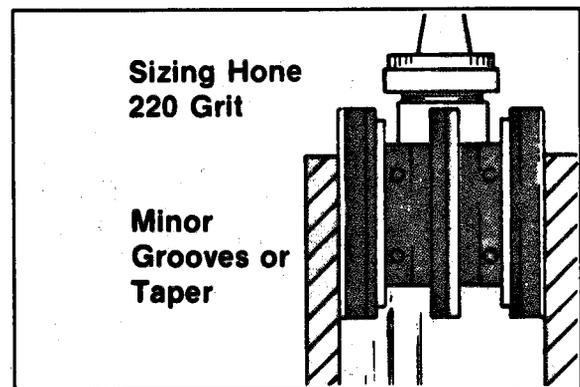

Figure 6-16
7. A sizing hone can be used to remove minor grooves or to correct minor out of taper (Figure 6-16).